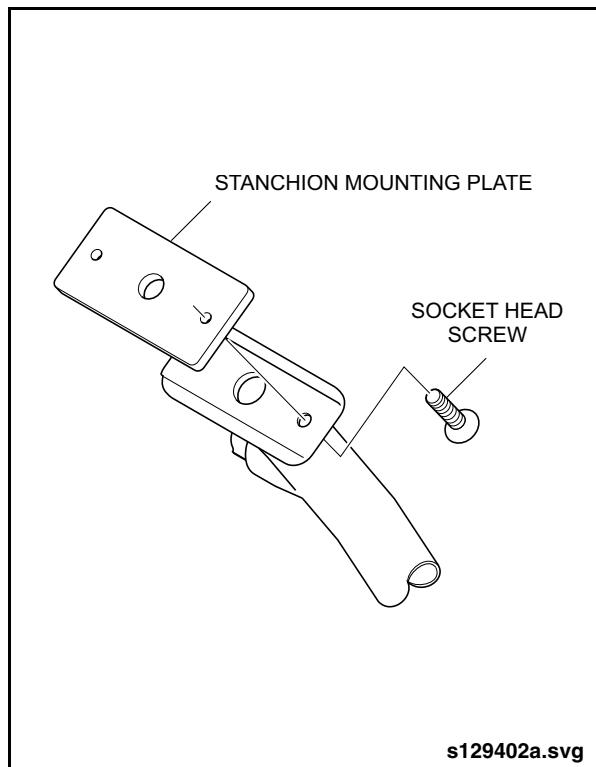

Fig. 17-14: Stanchion Upper Mounting
2. Remove the fasteners from the mounting plate that attaches the upper end of the stanchion to the overhead support extrusion. See "Fig. 17-14: Stanchion Upper Mounting" on page 17.